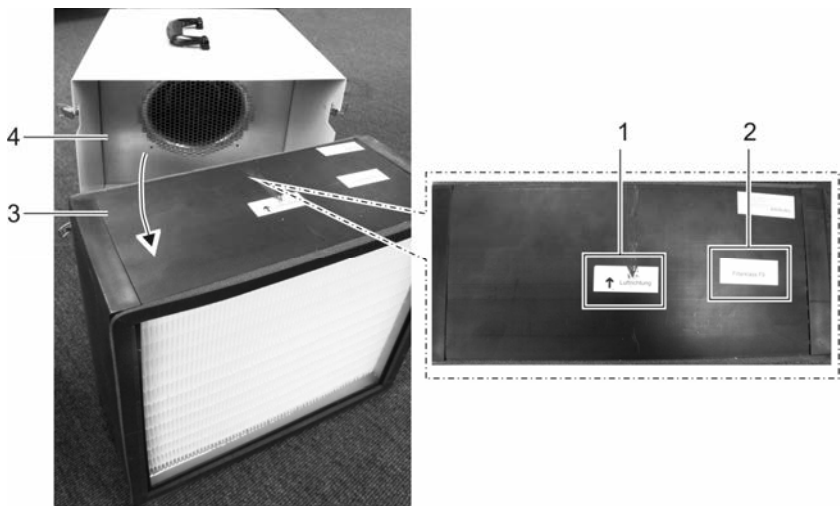

Fig. 4: Changing The Main Filter
7. Pull the Main Filter (Fig. 4, Pos. 3) out of the device (Fig. 4, Pos. 4).
9. Visual Inspection: Check the main filter for pollution. If necessary use a new filter of the same class (Fig. 4, Pos. 2) and push in rear of the casing in the direction of the air as indicated (Fig. 4, Pos. 1) be cautious when doing so.